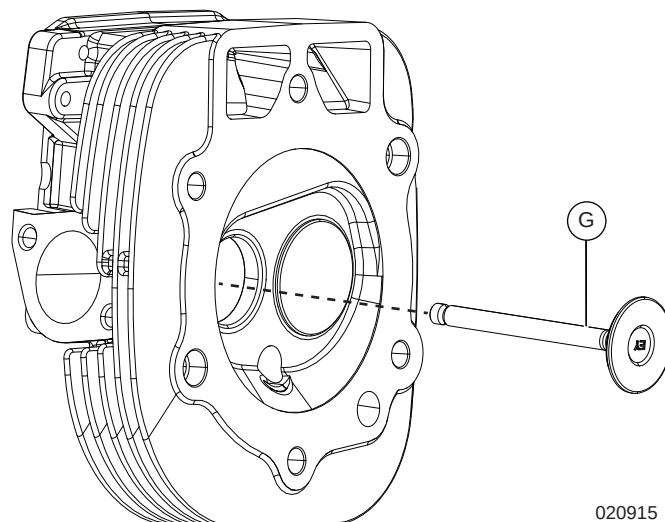

Figure 6-44. Remove Exhaust Valve
5. See Figure 6-44. Repeat steps 1–4 to remove exhaust valve (G) from cylinder head assembly.